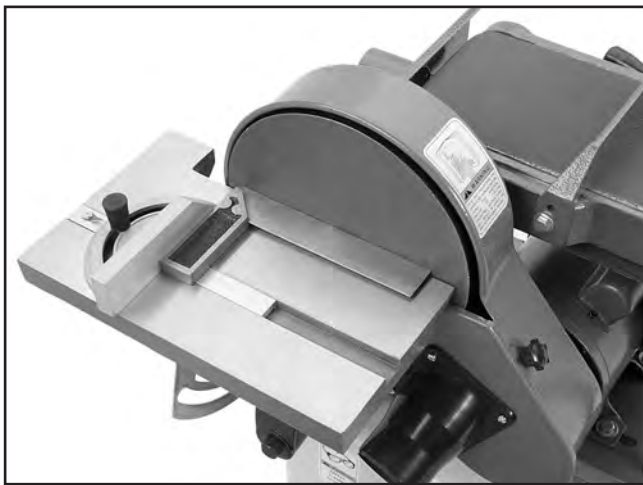

Figure 44. Calibrating miter gauge with square.
1. Place one edge of a machinist's square against the face of the miter gauge and the other against the sanding disc (see **Figure 44**) or sanding belt.